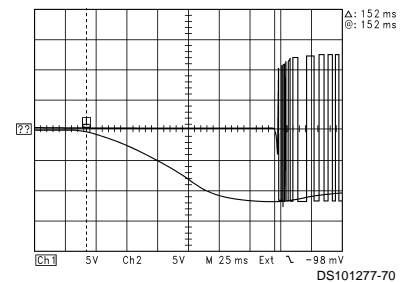

FIGURE 3. Startup Timing Diagram
Start Up Sequence and Self-Diagnostic Timing: The LM4651 has an internal soft start feature (see Figure 3) that ensures reliable and consistent start-up while minimizing turn-on thumps or pops. During the start-up cycle the system is in standby mode. This start-up time is controlled externally by adjusting the capacitance (C_{START}) value connected to the START pin. The start-up time can be controlled by the capacitor value connected to the START pin given by Equation (1) or (2):